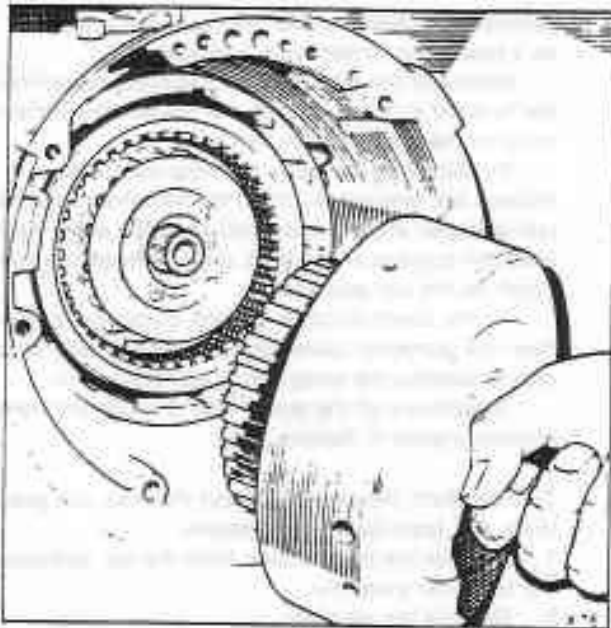

Fig. T18-2 Removing the forward clutch assembly
3. Withdraw the turbine shaft and the forward clutch from the transmission (see fig. T18-2).